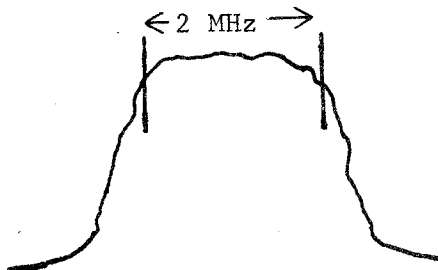

Figure 4-6. RF-Amplifier Response
- 6) Adjust trimmers C102, C104, C110 and C112 to give a 2-MHz bandpass similar to Figure 4-6. See page 4-24.